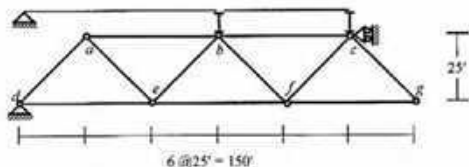

Fig. 5
4. Determine the degree of static indeterminacy (dosi) of the truss *abcdefg* shown in Fig. 5 and also draw the influence lines for the reaction at support *c* and forces in members *bc*, *bf* and *ef*.